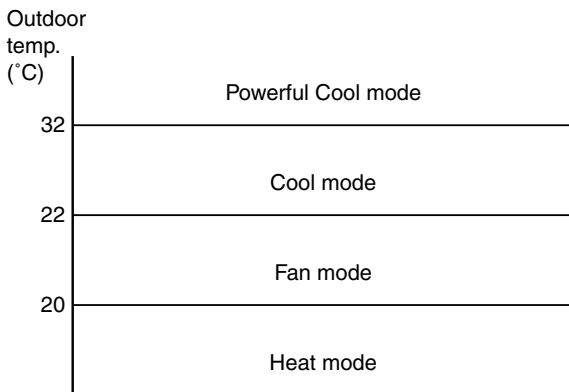

Fig. 8-2-10
- (1) As shown in Fig. 8-2-10, the operation mode (COOL, DRY, HEAT) is selected according to the outside temperature when the operation has started.